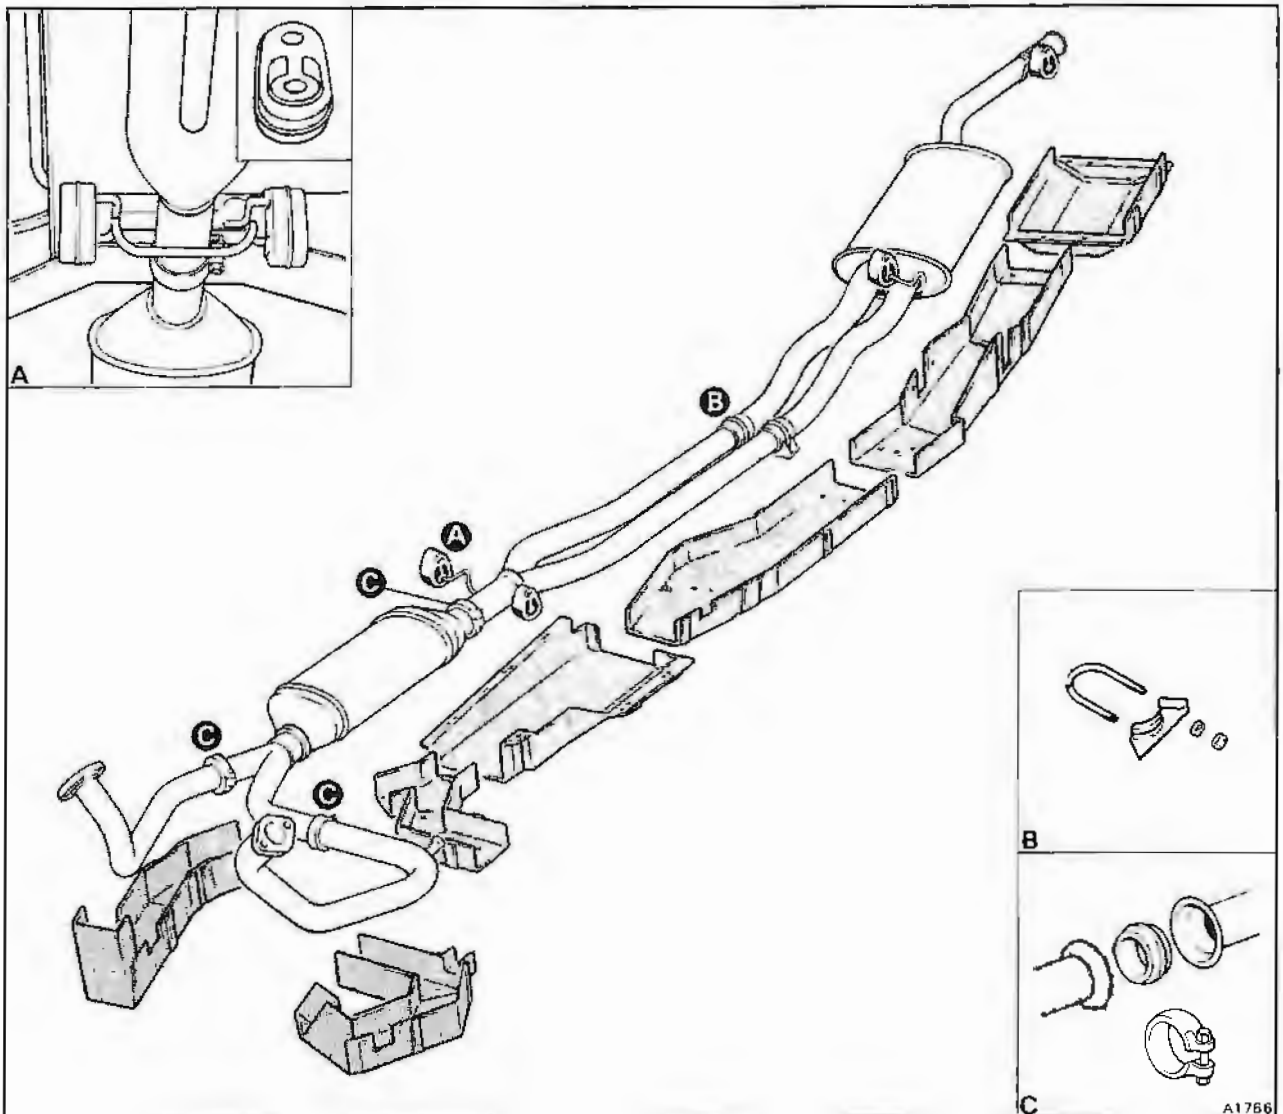

Fig. Q5-1 Exhaust system and grass-fire shields Naturally aspirated cars conforming to a Japanese specification
Cars conforming to a Japanese specification, have grass-fire shields fitted beneath the majority of the exhaust system as shown in figures Q5-1 and Q5-2.
5. Refer to figures Q5-1 and Q5-2 for cars conforming to a Japanese specification.